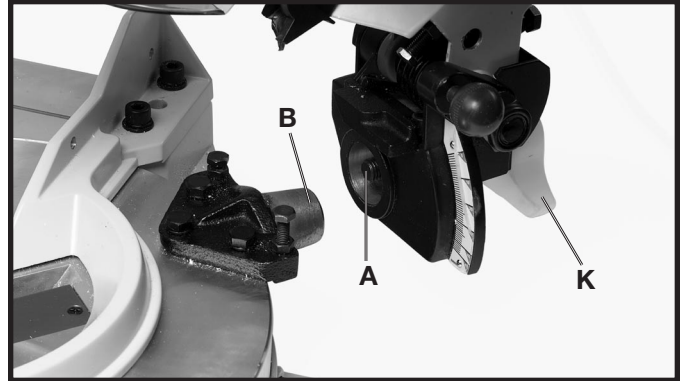
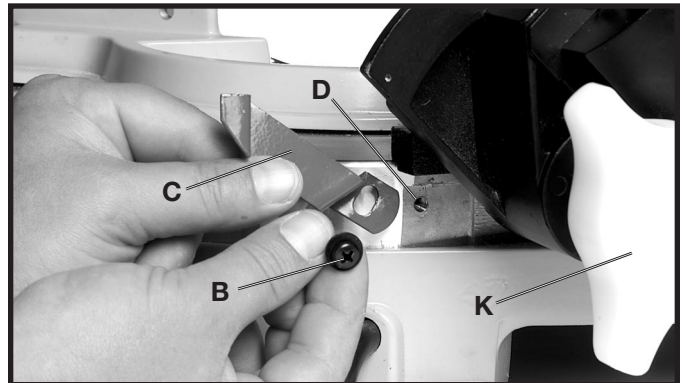

Fig. 2
Fig. 2A
1. Align the bevel lock handle screw (A) Fig. 2, on the miter saw arm with the bevel hub (B) on the base.
2. Thread the bevel lock handle screw (A) Fig. 2, into the bevel hub (B) by turning the bevel handle knob (K) Fig. 2A and tighten securely.
1. Loosen the bevel lock handle (A) Fig. 2A, and tilt the miter saw arm to the 45 degree position as shown.
2. Align the hole in the bevel pointer (C) Fig. 2A, with the hole (D) in the back of the base.
3. Insert the M5x.8x10mm pan head screw with washer (B) through the hole in the bevel pointer (C) Fig. 2A, and thread the screw into the hole (D) in the back of the base and tighten securely. **NOTE: TO ADJUST THE POINTER SEE SECTION "ADJUSTING 90 AND 45 DEGREE BEVEL STOPS".**